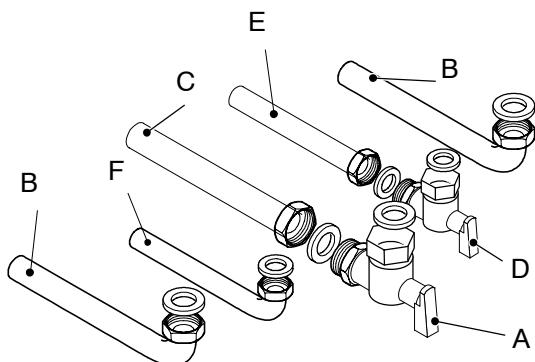

Fig. 5.3
4. Fix the gas cock A ( $\frac{3}{4}$ ") to the boiler using the  $\frac{3}{4}$ " gasket (Fig. 5.3)